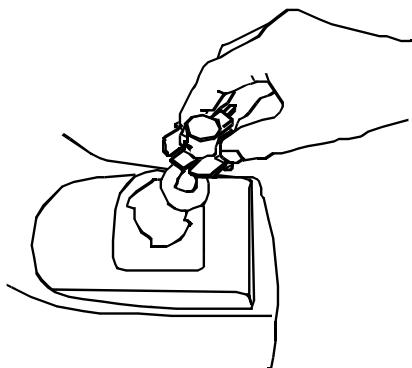

Figure 4-7
- Rotate the socket assembly approximately a ¼-turn to align the socket tab with the reflector housing notch; then withdraw the bulb and socket assembly from the reflector housing. See Figure 4-7.
- Align a locking post of the bulb base with the notch in the socket, then push the bulb inward and turn clockwise to lock. See Figure 4-7.